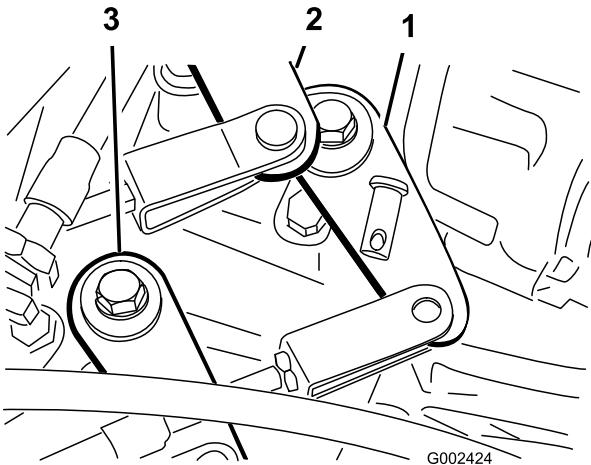

Figure 46
2. Remove the clevis pins securing the shift cables to the transaxle shift arms (Figure 46).
1. Remove the clevis pin securing the High-Low cable to the transaxle (Figure 46).